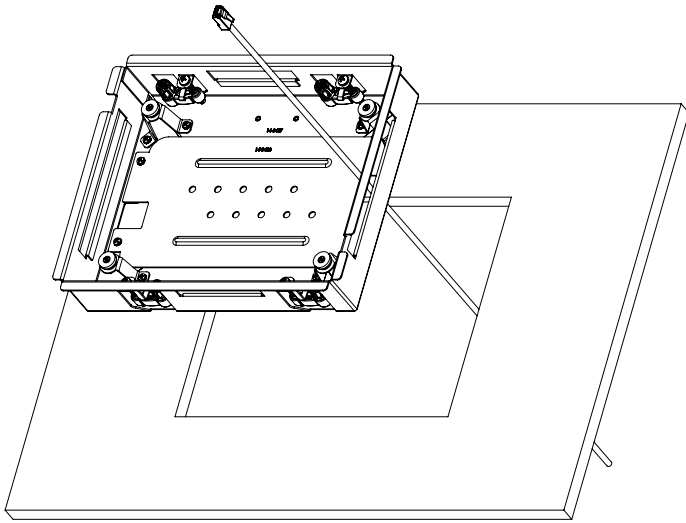

Figure 4: Mounting Frame
5. Prior to placing the mounting frame into the wall, pull a sufficient length of the Cat5 cable and its attached RJ-45 connector through the opening in the side of the mounting frame, as shown in figure 4.